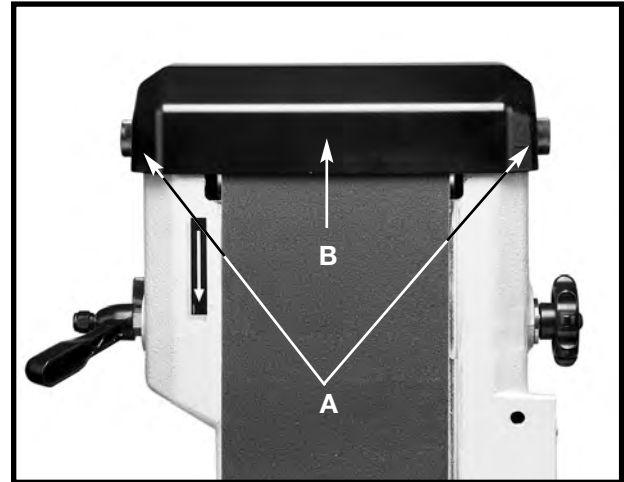

Fig. 19
1. Loosen the two lock knobs (A) Fig. 19, and remove the top cover (B).